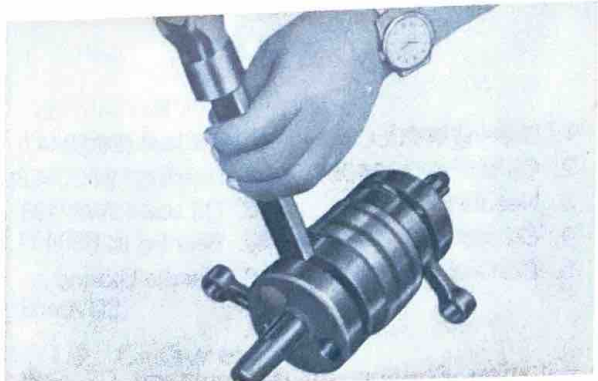

Fig. 4-17-20
- (2) To correct crank wheel runout drive a wedge into the gap between the crank wheels, or use a brass hammer to tap the wheels into alignment. (Fig. 4-17-20 and 21)